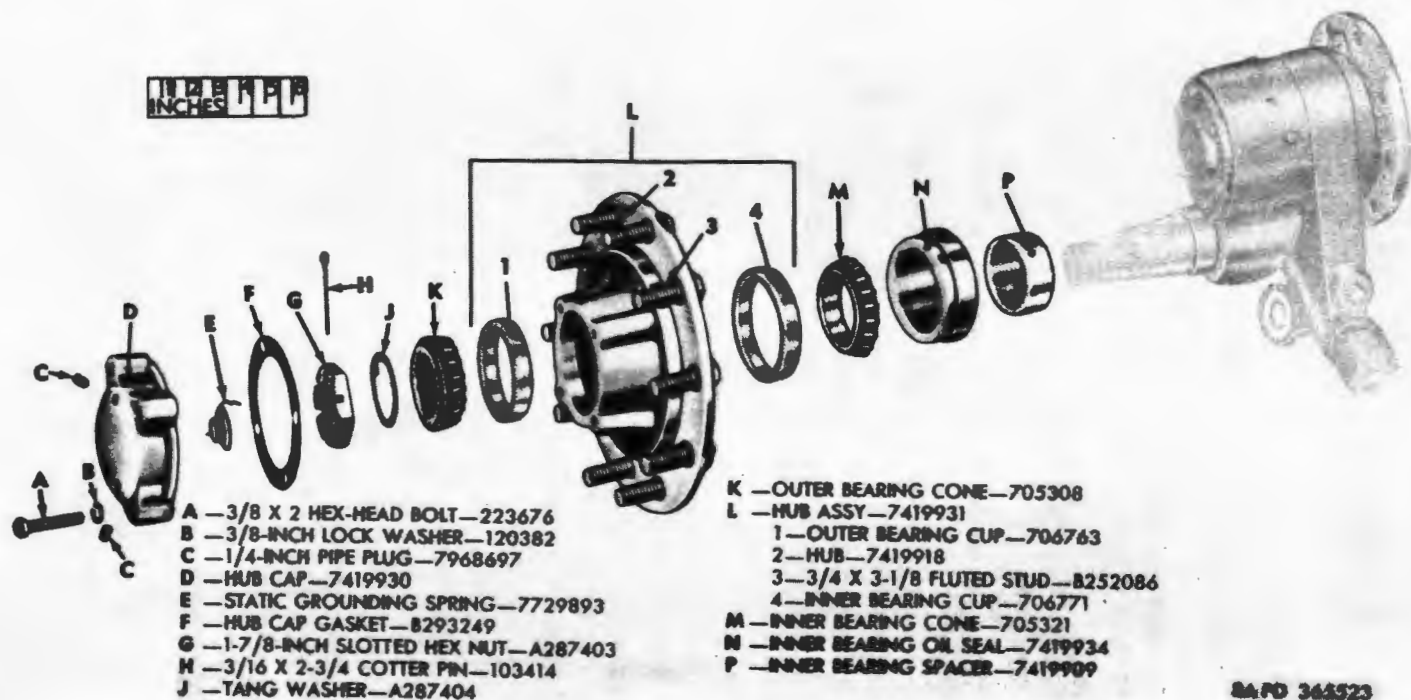

Figure 226. Compensating wheel supporting arm with hub and spindle assembly—exploded view.
- (1) Remove compensating wheel (par. 226b).
- (2) Remove compensating wheel hub assembly (L, fig. 226) and related parts from compensating wheel supporting arm with hub and spindle assembly (par. 224d(1)).
f. Assembly. Refer to paragraph 224g(1) and perform the operations described for the assembly of road wheel hub assemblies.
- (1) Install compensating wheel hub assembly (L, fig. 226) and related parts on compensating wheel supporting arm spindle (par. 224g(2)).
- (2) Install compensating wheel (par. 226e).